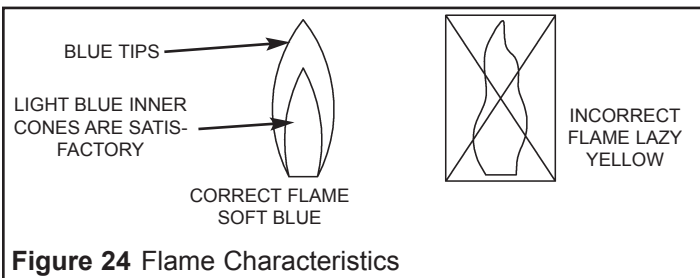
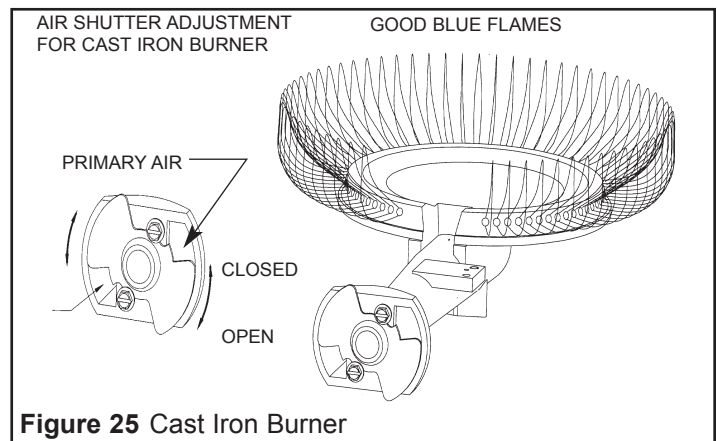

Figure 24 Flame Characteristics
Figure 25 Cast Iron Burner
- For units with cast iron burners, the flame presentation should be as shown in Figure 24. Adjustment is possible by changing the air shutter position on the burner inlet. If the flame needs adjusting, loosen the two screws and move the shutter (see Figure 25). If it is too far open, the flame will lift or will be noisy; if it is closed too far, the flame will be luminous and yellow. Once proper flame is obtained, tighten the screws to secure the air shutter.